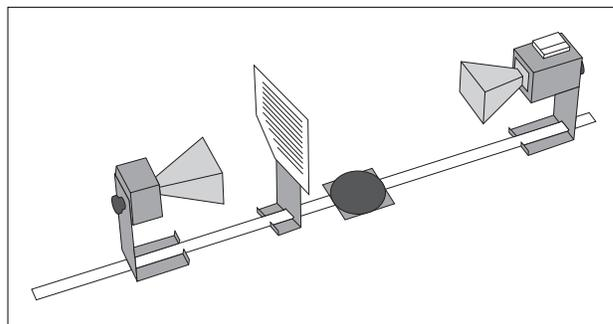

**Figure 5.3 Equipment Setup**
- ① Arrange the equipment as shown in Figure 5.3 and adjust the Receiver controls for nearly full-scale meter deflection.
- ② Loosen the hand screw on the back of the Receiver and rotate the Receiver in increments of ten degrees. At each rotational position, record the meter reading in Table 5.1.
- ③ What happens to the meter readings if you continue to rotate the Receiver beyond 180-degrees?